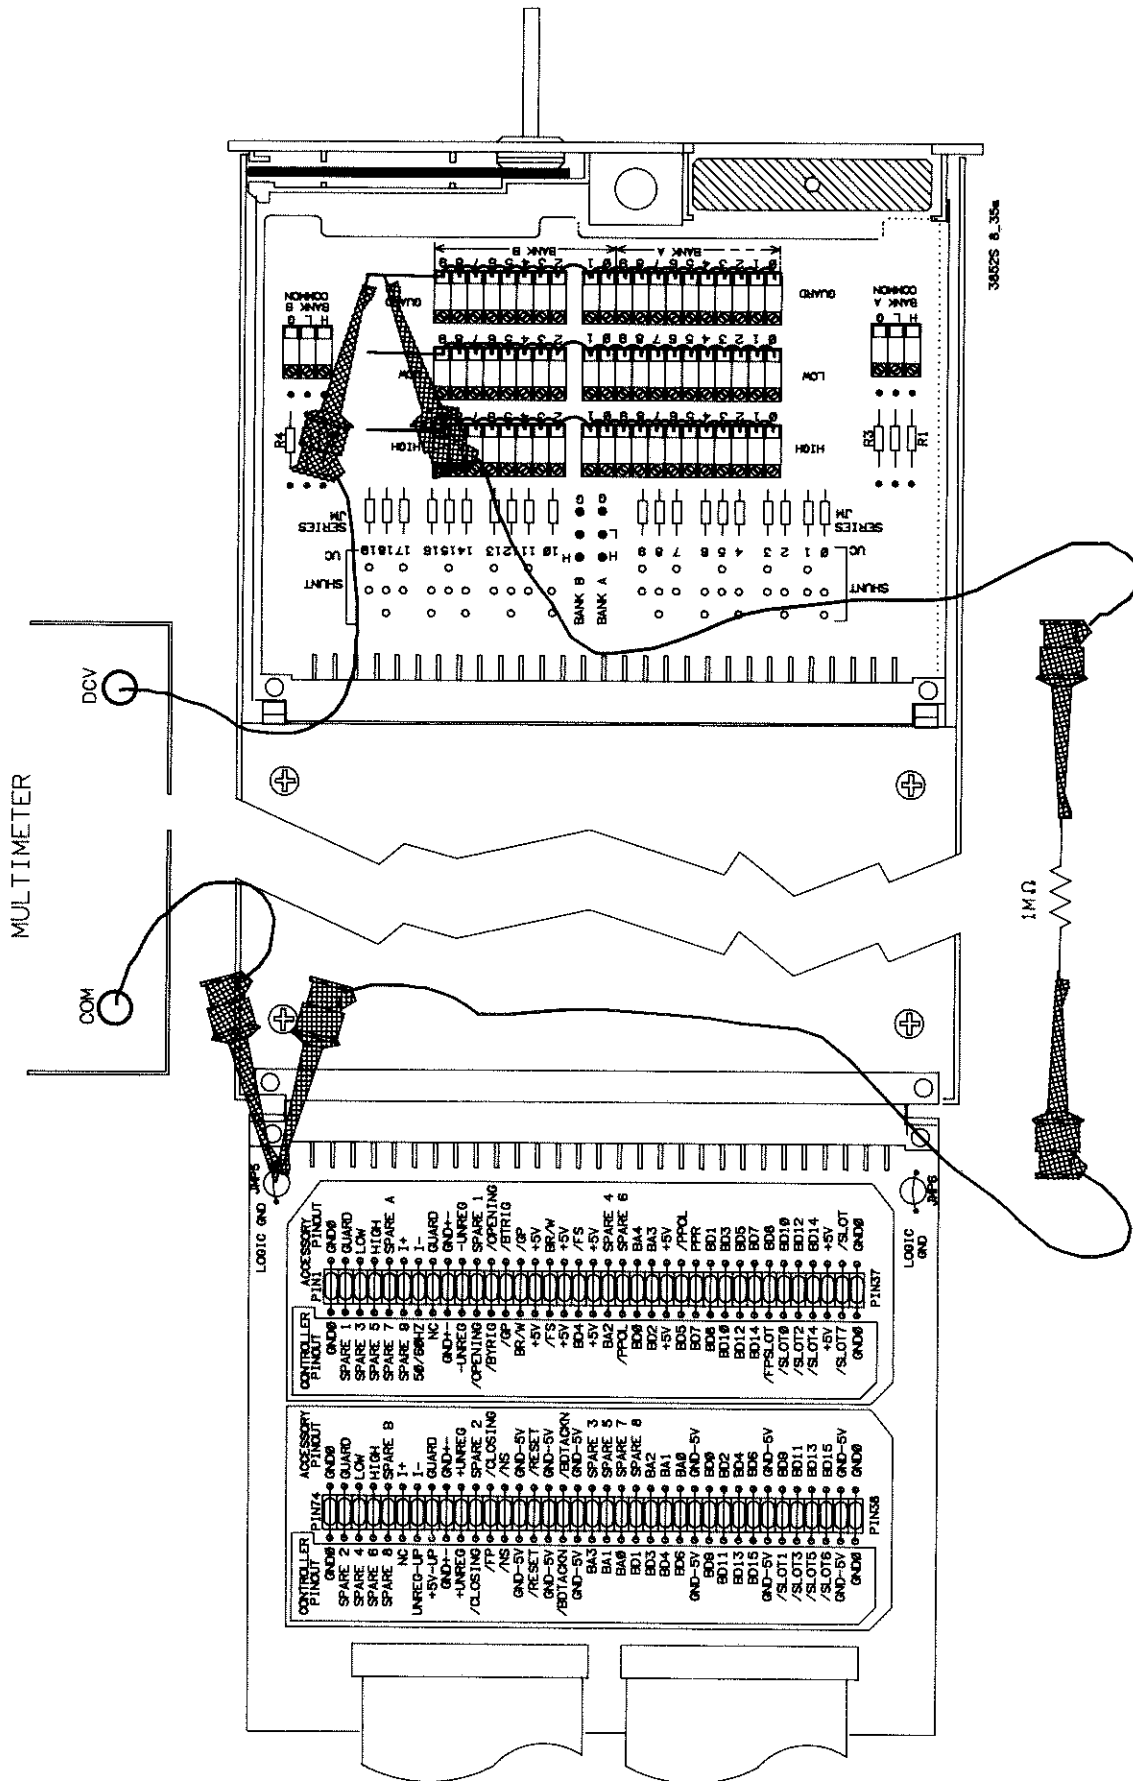

Figure 8-35 HP 44705A/H GUARD Lines Injected Current
12. **GUARD LINES INJECTED CURRENT TEST.** Move the multimeter DCV lead to the shorted GUARD test point on the test fixture as shown in Figure 8-35.